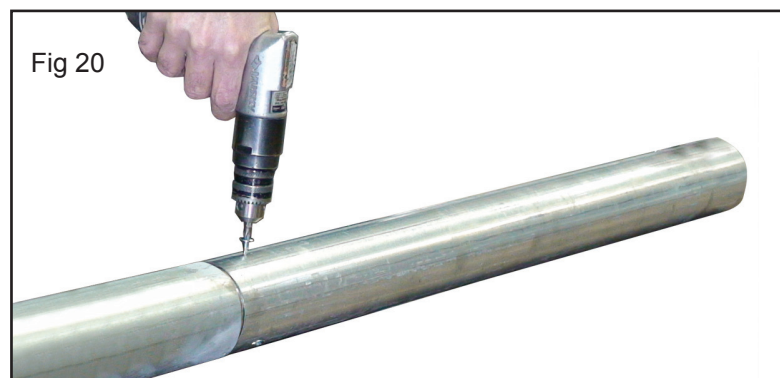

Fig 21
Step 11. Slide the ratchet end of the housing far enough open to fit the roller assembly into the housing.(Fig 21)